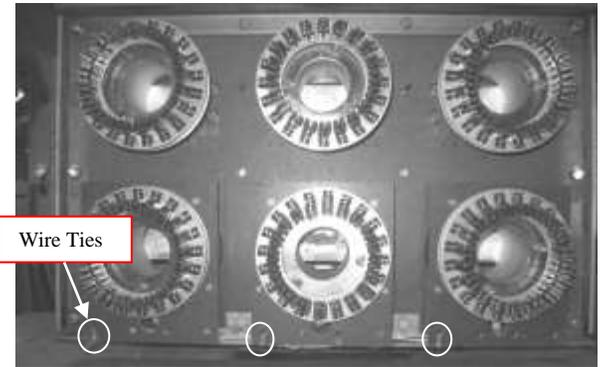

Figure 21: Installing the CTs on an RL-4000 breaker
3. Run the wires under the new CTs and secure with wire ties to the holes in the front of the CT assembly as shown in Figure 21.